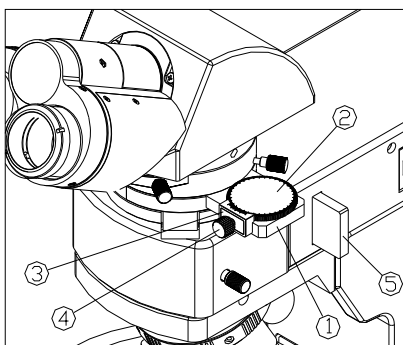

Fig.29
(1) Insert the analyzer flashboard ① upward into the socket of the intermediate lens group until to the innermost, and the analyzer is shifted into the light path. (See Fig. 29)
(2) Loosen the lock screw ④, turn the analyzer turntable ②, to change the vibrated direction of the analyzer. A grid value of scale is 2° , and the adjusting range is 360° . When observed orthogonally, the “0” reticle on turntable ② should be leveled with the “0” reticle on the vernier ③. A grid value of vernier is $6'$.
(1) Insert the polarizer flashboard ④ forward into the socket of illumination system. The polarizer is moved into the light path until two sounds of “KaDa” is heard. (See Fig. 29)